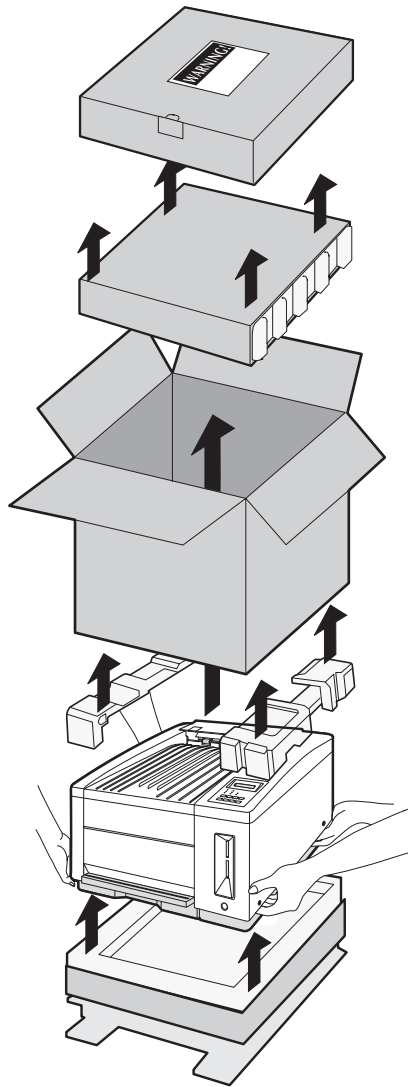

Fig. 2.2 *Unpacking the Printer*
1. Remove everything except the printer from the shipping carton (fig. 2.2).
2. With the assistance of another person, grasp the printer by the four ridged finger grips (two on each side of the printer) and lift it out of the carton and remove the plastic wrap (fig. 2.2).